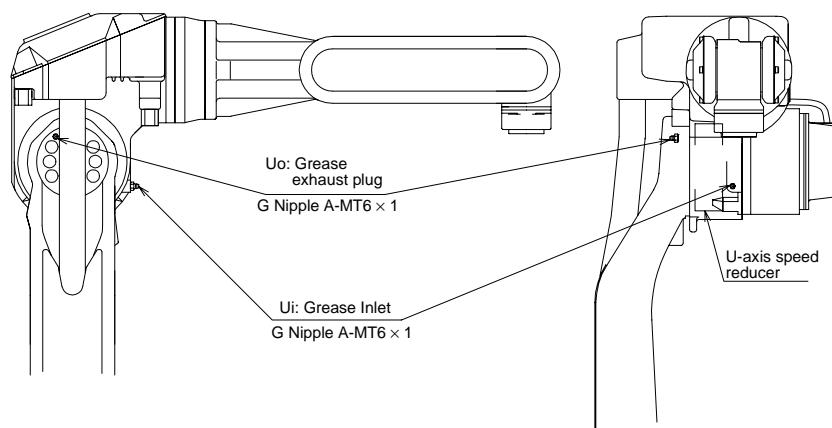

Fig. 28 U-Axis Speed Reducer Diagram
■ Grease Replenishment (Refer to " Fig. 28 U-Axis Speed Reducer Diagram ".)
■ Grease Replacement (Refer to " Fig. 28 U-Axis Speed Reducer Diagram ".)